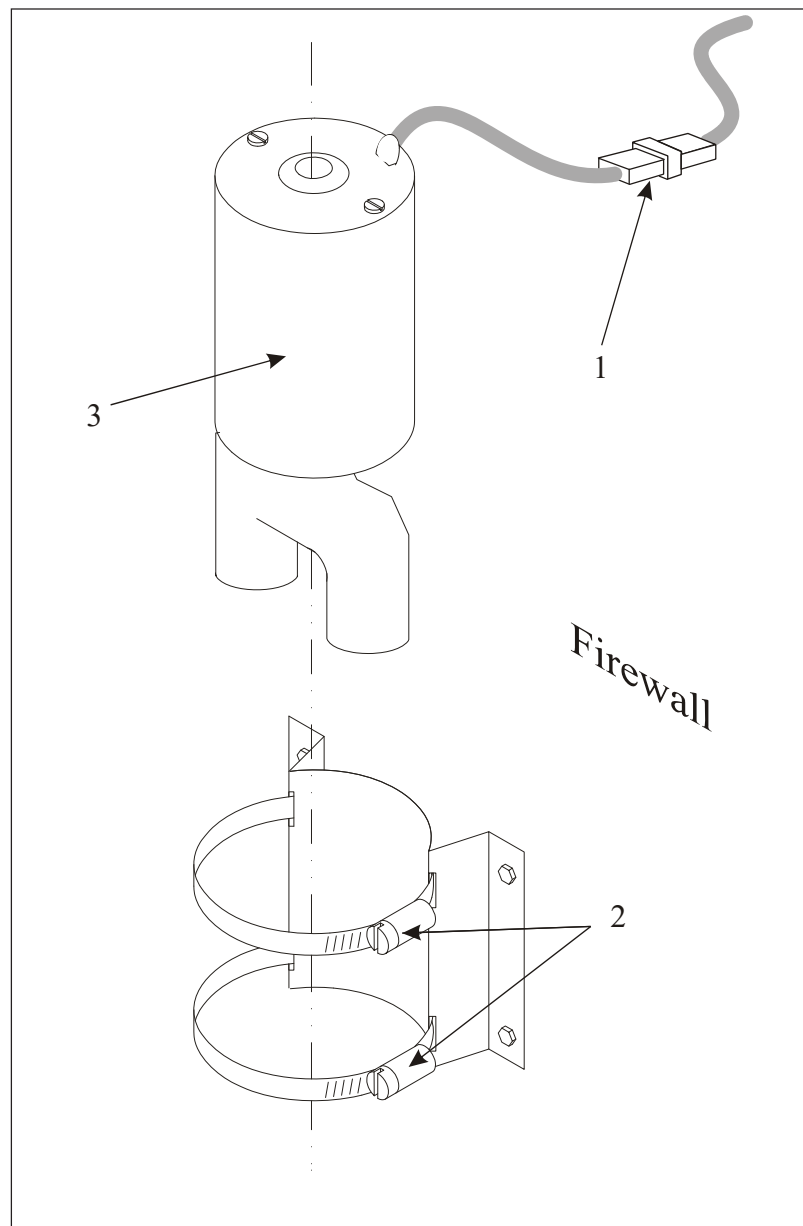

Figure 13
- 2 Disconnect the plug (1, Figure 13) and the fuel lines from the boost pump.
- 3 Loosen the screw clamps (2).
- 4 Remove the boost pump (3).